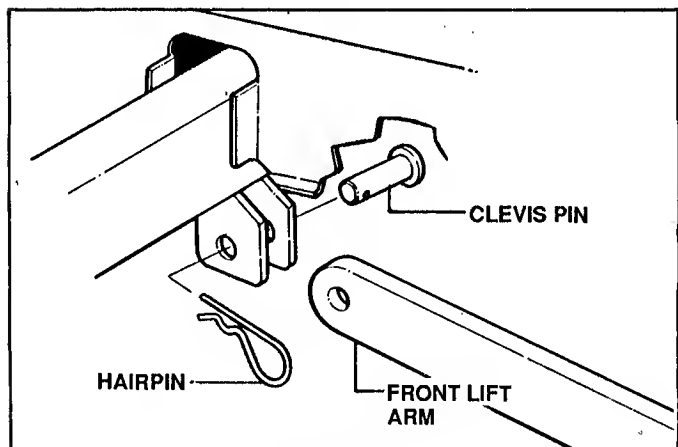

FIGURE 28
4. Remove hairpins and clevis pins from FRONT LIFT ARMS. See Figure 28.